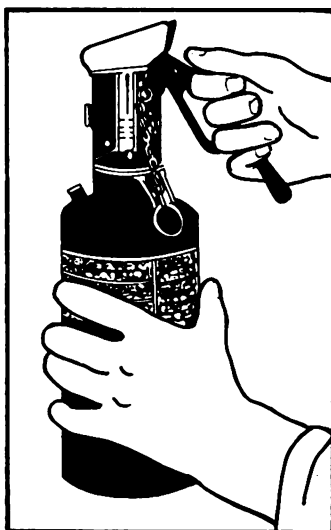

Figure 2.
b. Grasp the M11 in one hand (figure 2) and lift up on the charging handle with the other. You should hear a hissing noise which indicates the compressed gas from the nitrogen cylinder has entered and charged the M11.